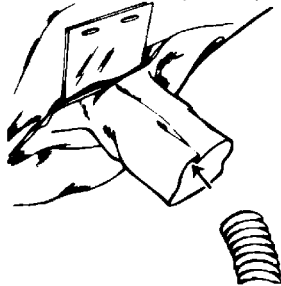

Figure 10
2. Insert the open end of the breathing tube approximately five inches into hood's air entry sleeve (see Figure 10).